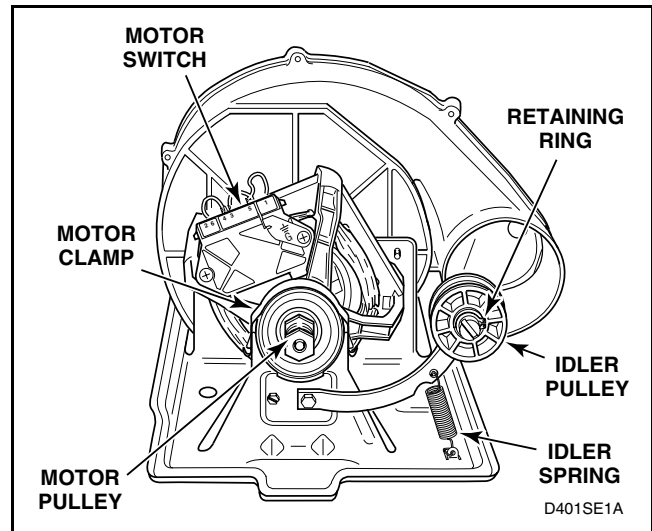

Figure 21
Refer to *Figure 21* for motor and idler pulley removal.
- (2) Pry two motor clamps off motor mounting bracket with screwdriver. Refer to *Figure 21*, then lift motor out of mounting bracket.